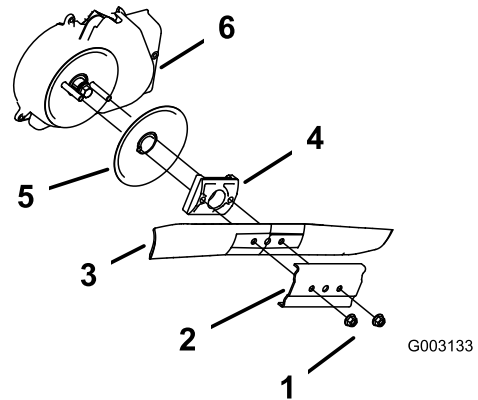

Figure 41
3. Remove the 2 blade nuts and the stiffener (Figure 41).
4. Remove the blade (Figure 41).
5. Remove the blade driver and disk (Figure 41).
6. Remove the blade brake clutch shield (Figure 41).
10. Install the blade and the stiffener that you previously removed (Figure 41).